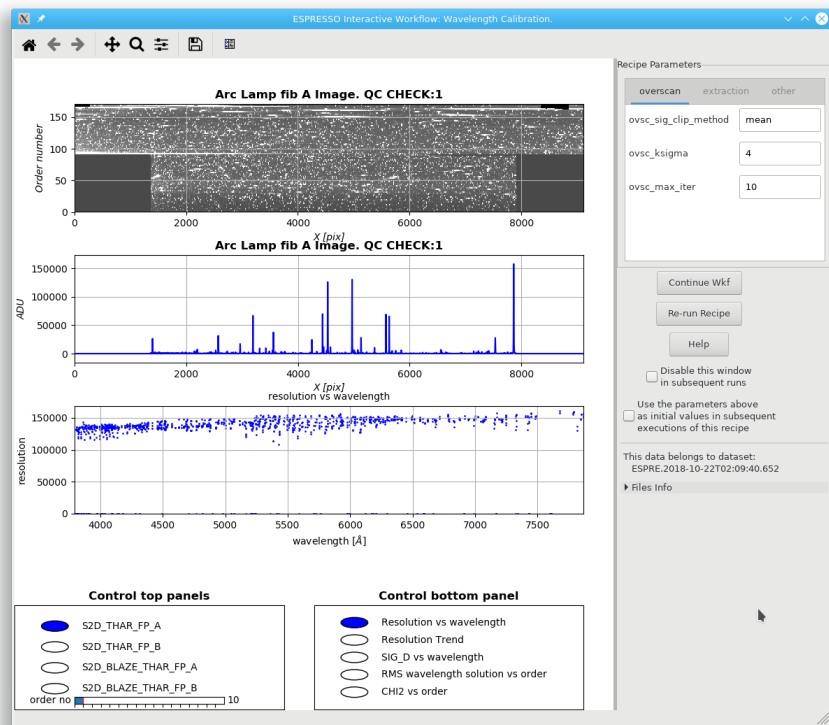

Figure 7.7.1: *Wavelength Calibration (THAR,FP) Interactive workflow.*
This interactive workflow shows at the top an image corresponding to the stacking of the extracted Fabry Perot and ThAr spectra from both detectors, end to end (S2D format, see Figure 7.7.1) for fibre A in S2D format (THAR,FP). The user may display similar images for the fibre B (FP spectrum) or for the extracted blaze spectrum for fibre A or B. In the middle, the GUI shows the extracted spectrum corresponding to the image at the top and to the order number shown in the horizontal slider. At the bottom, the GUI shows the scatter plot of the resolution versus wavelength. Alternatively the user may display an image of the resolution trend in different detector positions (this is shown with a different color scale). Alternatively, the user may display the effective Fabry Perot cavity length (D) measured by the pipeline or its sigma, versus wavelength (λ), or the RMS of the wavelength solution versus the order number, or the computed χ^2 versus the order number.